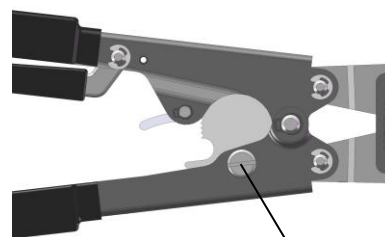

Fig. 10 Eccentric Stud 10
3. Using a straight blade screwdriver, rotate the **Eccentric Stud (Fig. 10)** counterclockwise until jaws contact the GO/NO-GO gauge before the NO-GO area of the gauge.